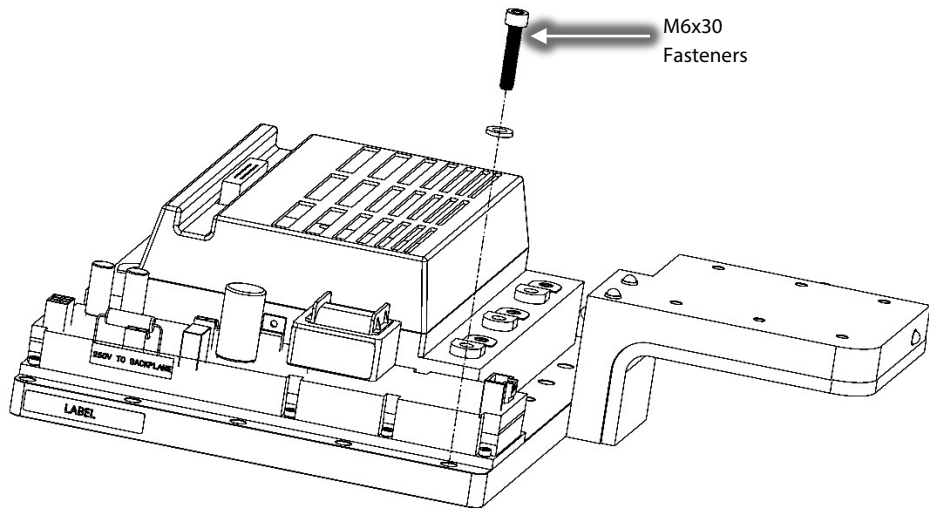

Figure 20 – Inverter Removal
34. Remove the M6x30 fasteners that secure the Inverter to the compressor main housing. Refer to Figure 20 (Inverter Removal).
35. Carefully, remove the Inverter and discard the two (2) O-rings underneath. (Note that the SCR cooling manifold will be attached to the Inverter cooling plate.)
36. Carefully remove the SCR cooling manifold foam insulation in order to gain access to the fasteners shown in Figure 20 (SCR Cooling Manifold Removal).